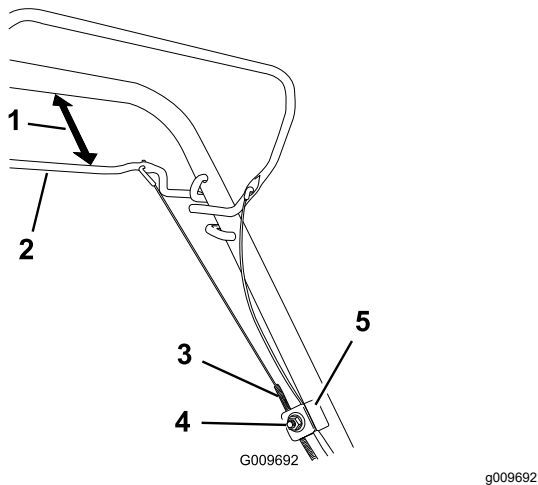

Figure 22
1. Loosen the cable-support nut (Figure 22).
2. Hold the self-propel-drive bar 25 to 38 mm (1 to 1-1/2 inches) from the handle (Figure 22).
3. Pull down the cable jacket (toward the machine) until there is no slack in the cable (Figure 22).